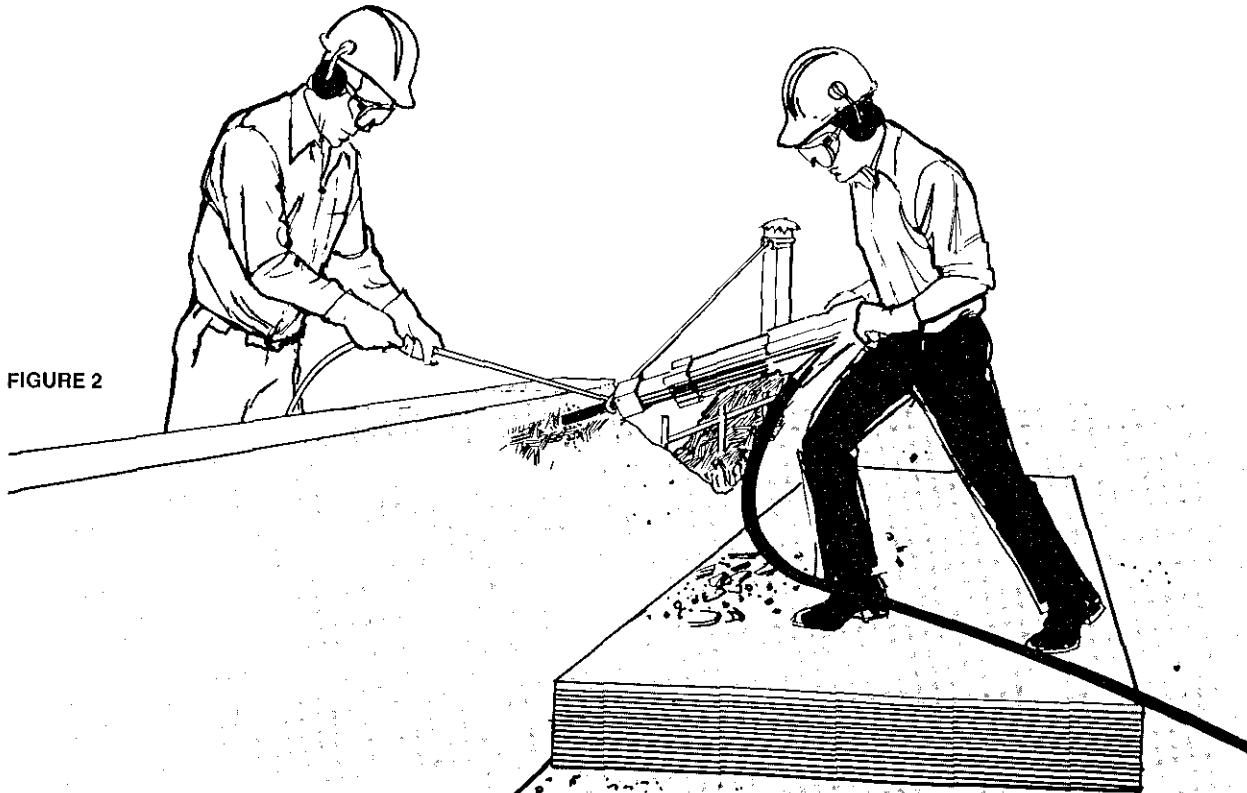

FIGURE 2
- Wherever possible, have the point make contact below waist level (Figure 2).
- Have a second worker support the lower half of the breaker with a rope or sling (Figure 2).